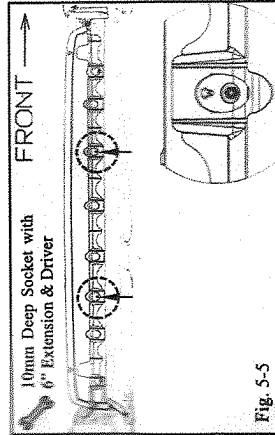

Fig. 5-5
(h) Insert and hand start two (2) M6 nuts ① on the bottom facing flange (Fig. 5-5).
(i) Tighten and torque the nuts to 7 N·m (Fig. 5-5).